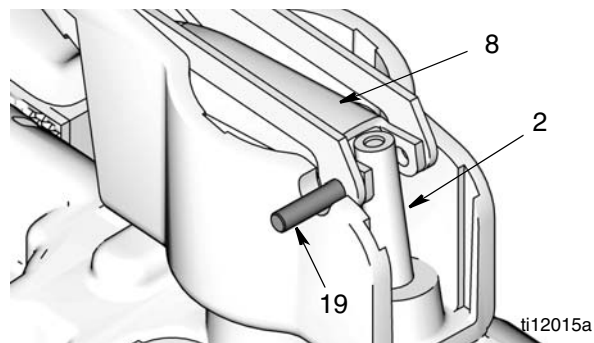

FIG. 44
4. Turn meter over and place in vise. Align holes in trigger assembly with holes in trip rod (2). Use the old trip rod or a non-metal rod or dowel to push trip rod up and out of the meter housing (FIG. 44) far enough to see hole for pin (19) to slide into, however, **do not install pin in this step.**
5. Install trigger assembly (8) (FIG. 44). Push pin (19) through holes in trigger and trip rod assembly.